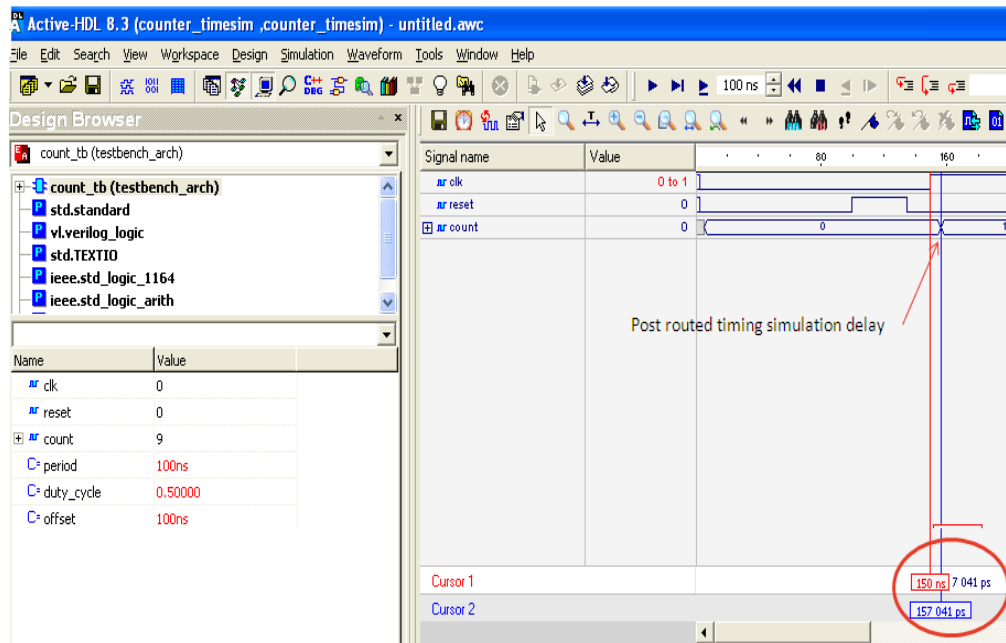

Figure 10-23: Timing Simulation Waveform
11. Type the command “run 1000ns” in the console and press enter. The 1- μ s simulation waveform will show up in the waveform window. The counter output timing delays with respect to clock positive edge is shown in Figure 10-23.